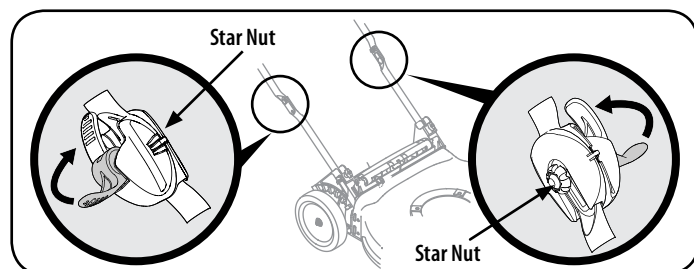

Figure 5
- b. EZ-Fold Handles - Place the release levers in the locked position. See Figure 5.